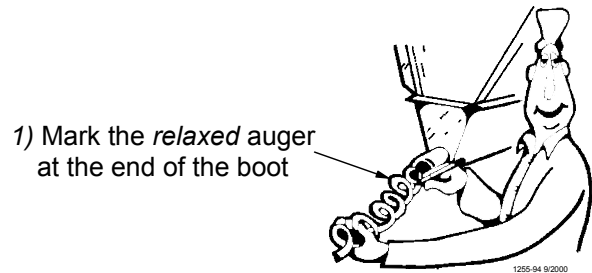

Figure 52. Measure the Auger from the relaxed position
10. Pull the auger at the boot end until it begins stretching. Then let it relax. In the *relaxed* position, mark the auger at the end of the boot. See **Figure 52**.